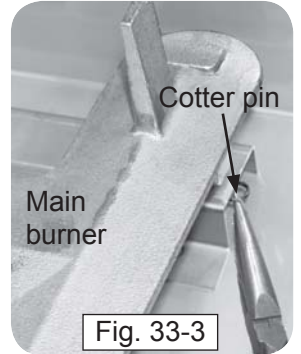

Fig. 33-3
3. Remove the cotter pin from the left or right rear burner anchoring peg by pulling it straight out of the cotter pin hole using fingers or needle-nose pliers (Fig. 33-3).